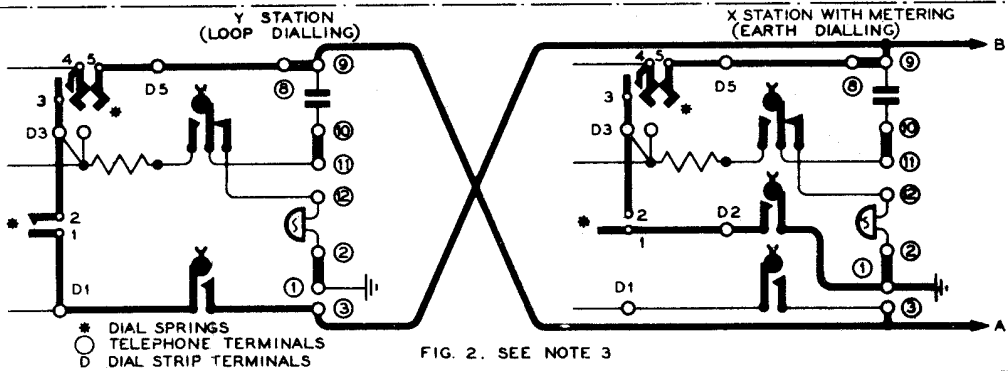

FIG. 2. SEE NOTE 3
3. **DIALLING CONDITIONS:** 2-party line telephones are normally arranged for loop dialling but when selective 2-party line metering is provided, X stations are connected for earth dialling. See Fig. 2.
5. **EXTENSION TELEPHONE (RINGING):** Use telephone H 1150 and a 4-way block HB 170. Wire as shown in Fig. 2.